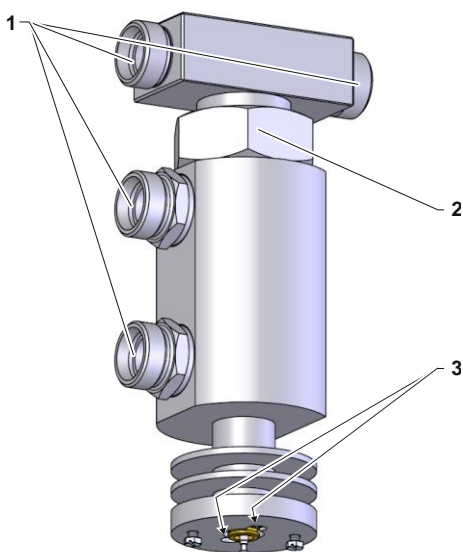

Fig. 1: Proportional module
- Undo connections (Label 1 → Fig. 1) on proportional module.
- Undo terminal nut with 65 mm wrench size (Label 2 → Fig. 1) and remove lower section of proportional module.
- Remove safety screws (Label 3 → Fig. 1) for attaching the guide bush at the bottom of the proportional module.
- Mount a new guide bush and secure with the safety screws (Label 3 → Fig. 1).
- Tighten terminal nut (Label 2 → Fig. 1) with torque 500 Nm.
- Mount proportional module in the unit and tighten connections (Label 1 → Fig. 1) with torque 150 Nm.
- Remove the fixing screw (label 3 → Fig. 1) holding the guide bush at the bottom of the proportional module.
- Fix the guide bush with the fixing screw. (label 3 → Fig. 1).